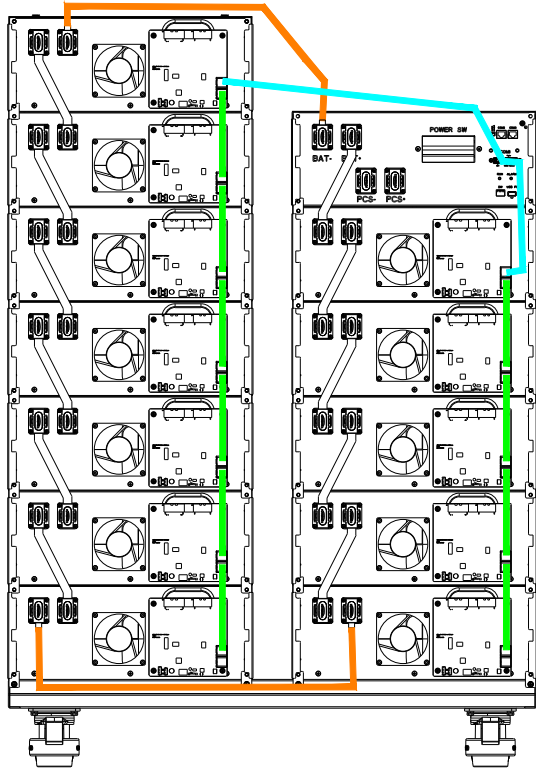

Figure-14 Battery cluster communication cable wiring diagram
2) According to the wiring position shown in Figure-14, each cluster is connected to the battery module communication line in the S-shape from the lower right corner.